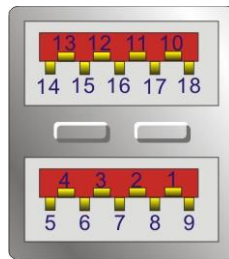

Figure 3-30: External USB 3.2 Gen 2 Connectors Location
- CN Location:** See **Figure 3-30**